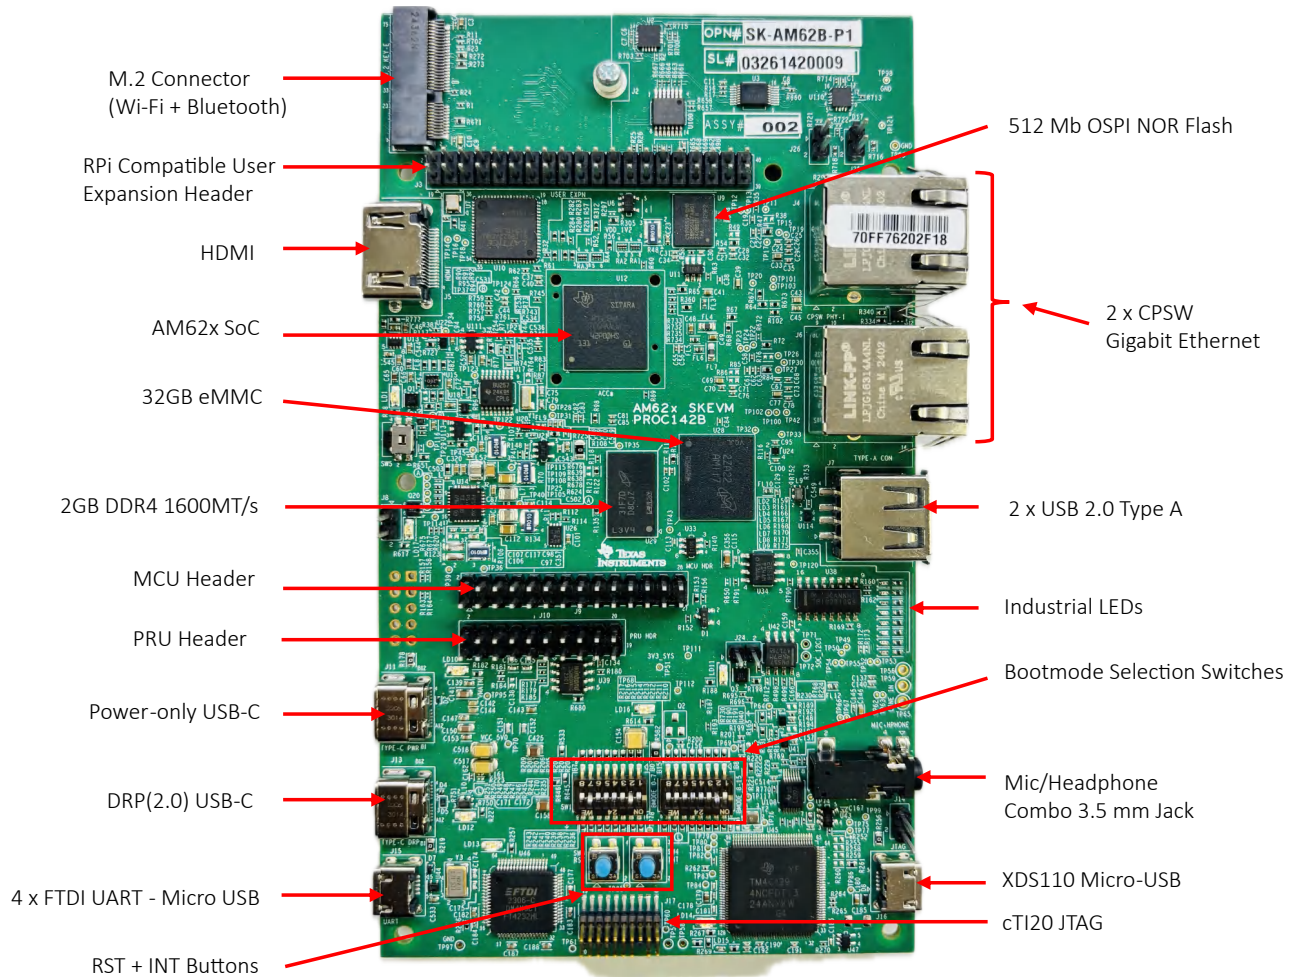

Figure 4-1. SK-AM62B-P1
- Figure 4-1 shows some important cable connections, ports and switches.